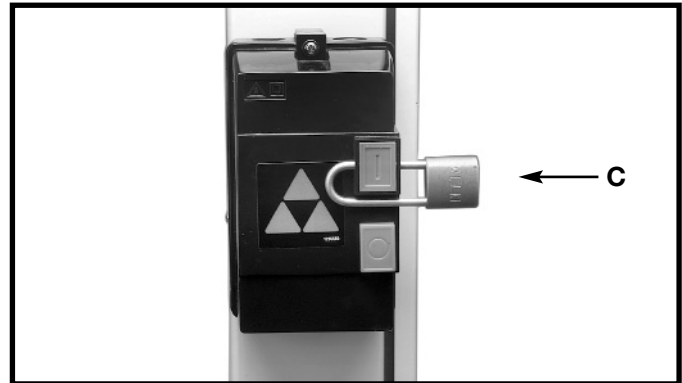

Fig. 15
IMPORTANT: When the tool is not in use, the switch should be locked in the “OFF” position to prevent unauthorized use, using a padlock (C) Fig. 15 with a 3/16" diameter shackle.